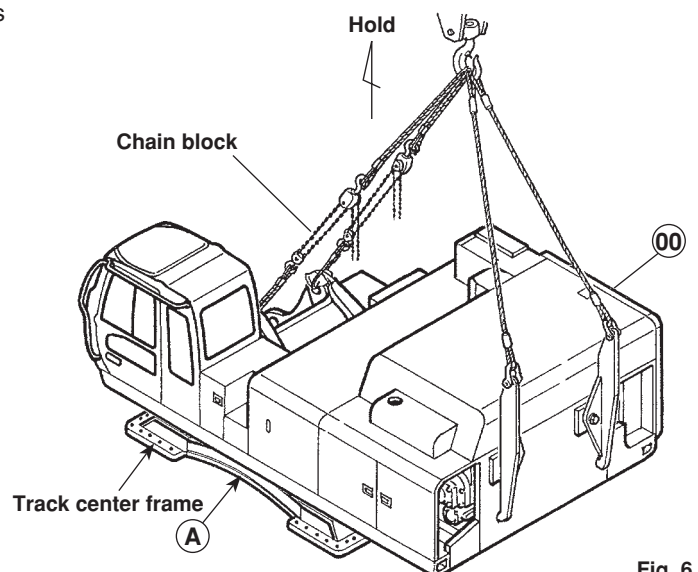

Fig. 6
- 2 Check the direction of the track center frame of superstructure 00. Check that the track center frame is facing the direction as shown in A in Fig. 6.